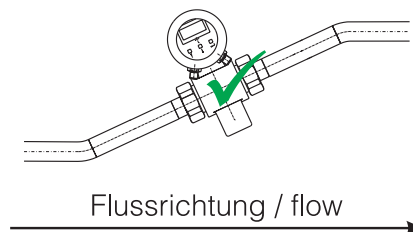

Fig. 4
- + in the case of long horizontal lines the metering shall be performed in a short riser (Fig. 4)